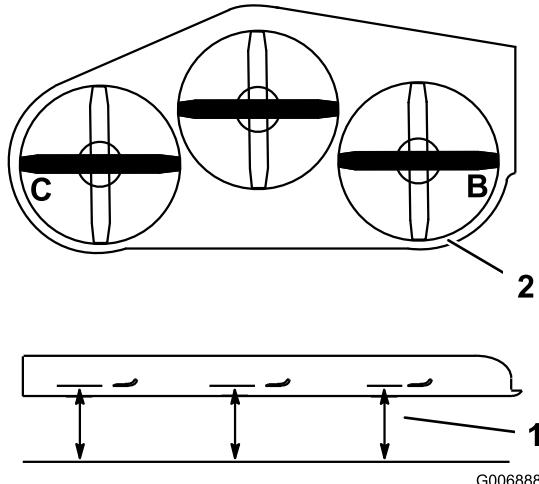

Figure 83
4. Measure at the **B** and **C** locations from a level surface to the cutting edge of blade tips (Figure 83).